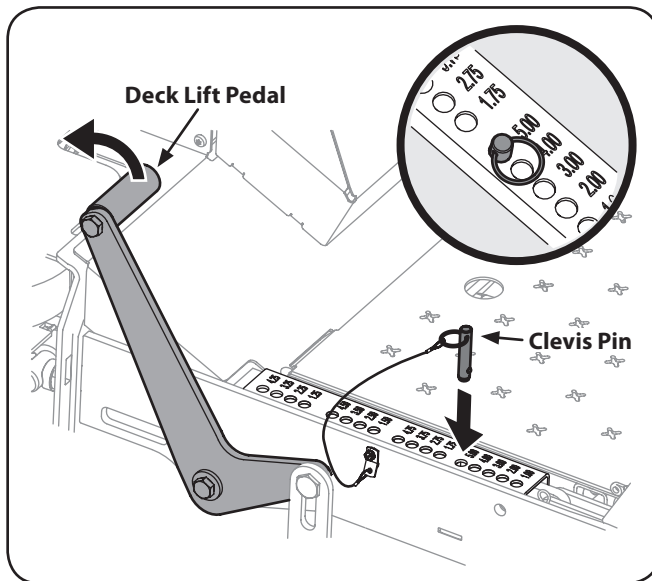

Figure 5-10
1. Use the deck lift pedal to raise the deck to its highest position, place the clevis pin attached to the tractor into the desired index hole on the deck height index, then slowly release the deck lift pedal. See Fig. 5-10.